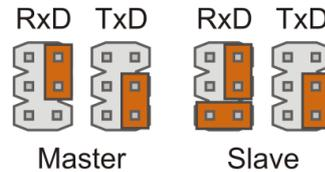

Fig. 12.23.
**Warning!** Hard drives of this family have a peculiarity pertaining to drive startup. Some drives block the terminal after initialization when connected as «Master». You will have to connect the drive as «Slave» to allow work via the terminal. Fig. 12.23 shows the scheme of jumper settings on the PC-2” adapter for Seagate Momentus drives.